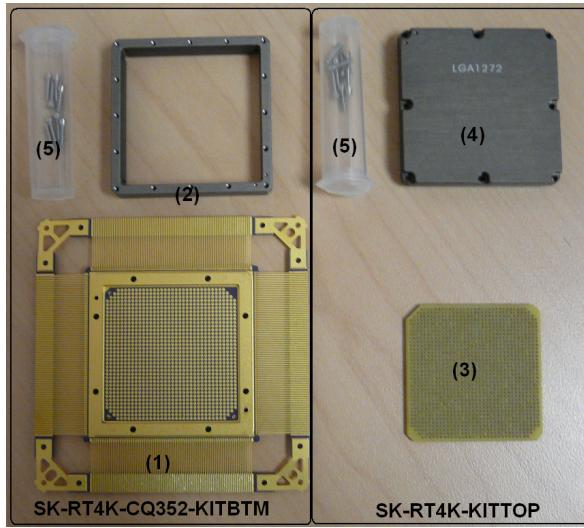

Figure 1 • Parts of CQ352 to LG1272 Adapter Socket: (1) Ceramic Adapter, (2) Socket Housing, (3) Socket Interposer, (4) Socket Lid, (5) Fixing Screws
Figure 1 shows the complete CQ352 to LG1272 assembly kit. SK-RT4K-KITTOP contains an interposer (3), a socket lid (4), and eight screws (5). SK-RT4K-CQ352-KITBTM contains a ceramic adapter (1), which is an unique adapter for RTAX4000S/SL, socket housing (2), and eight screws (5).